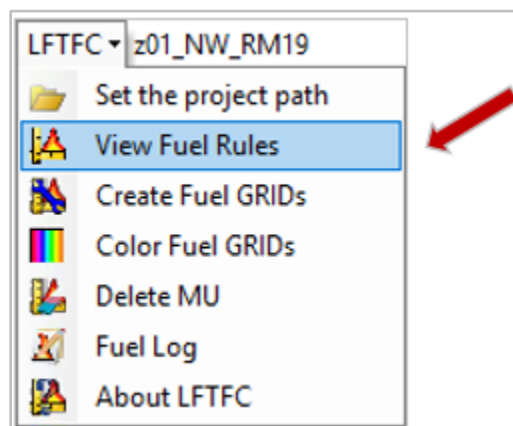

Figure 6-7. Select **View Fuel Rules** option from the drop-down menu.
- To begin, select **View Fuel Rules** from the drop-down menu on the left-hand icon of the toolbar (Figure 6-7).